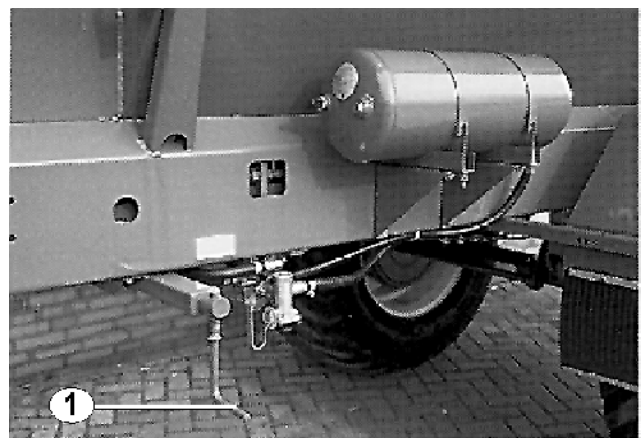

Fig. 16
- Turn hand crank (Fig. 16) located on the side of the chassis to the left until stop
- Release parking brake (Fig. 16/1):